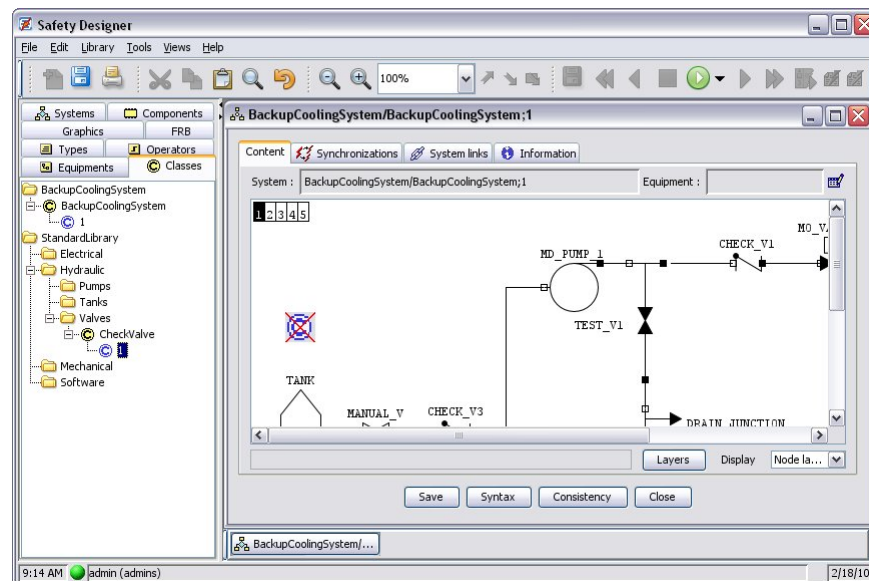

Figure 28: Cannot drop for instantiation
- ✎ A forbid sign is displayed when trying to drop a model class that cannot be instantiated in the current one (this is relevant when using the system/equipment/component paradigm, as in Figure 28: Cannot drop for instantiation)